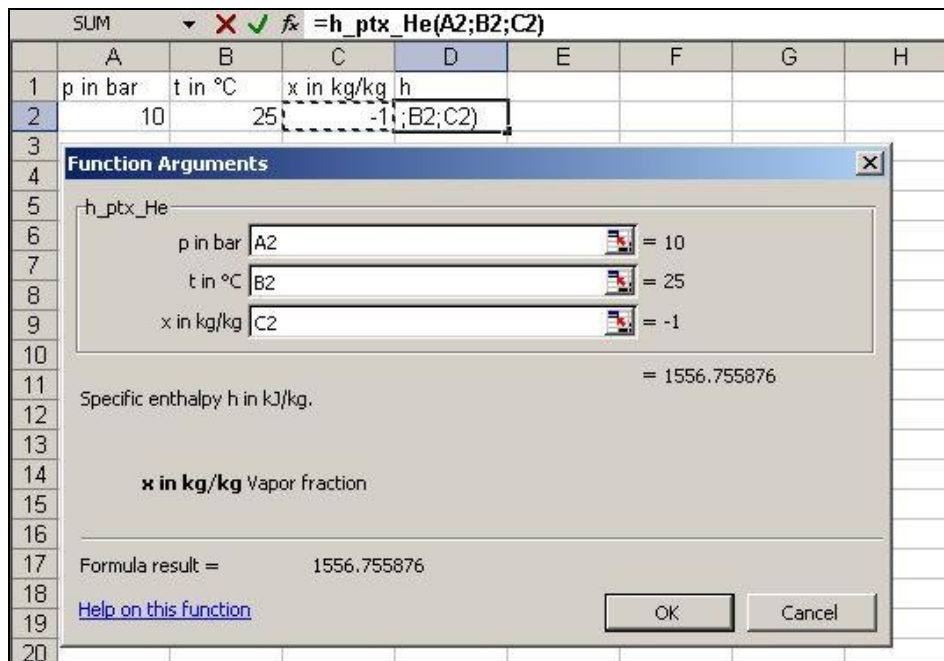

Figure 2.15: Enter the given values for the property calculation
- Click "OK". The window shown in Figure 2.15 appears.